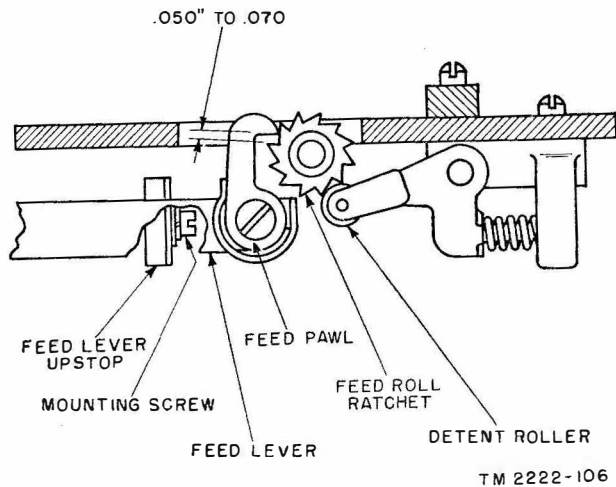

Figure 63. Feed-lever upstop requirements.
### 114. Feed-lever Upstop (fig. 63)
- (2) Rotate the motor manually until the adjusting lever just contacts the lobe of the feed lever (fig. 63). With the contact lever bail in this position, there should be at least 0.002-inch clearance between the bail and each contact lever lobe. With the operating lever on the low part of the operating cam, there should be at least 0.010-inch clearance between the radius of feed pawl or the feed spring and the feed wheel ratchet. If this clearance does not exist, refine the feed-lever upstop adjustment.